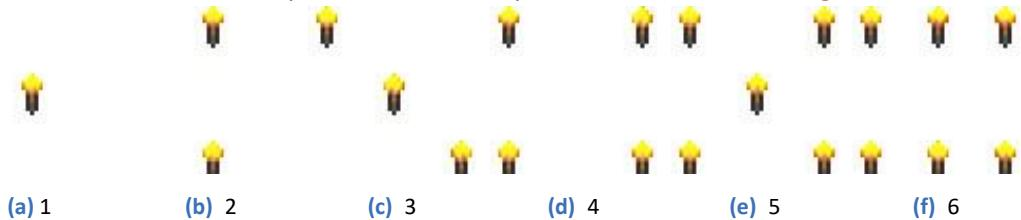

Figure 2.40
11. Make a dice that shows points, and the six-point effect is shown in Figure 2.40.